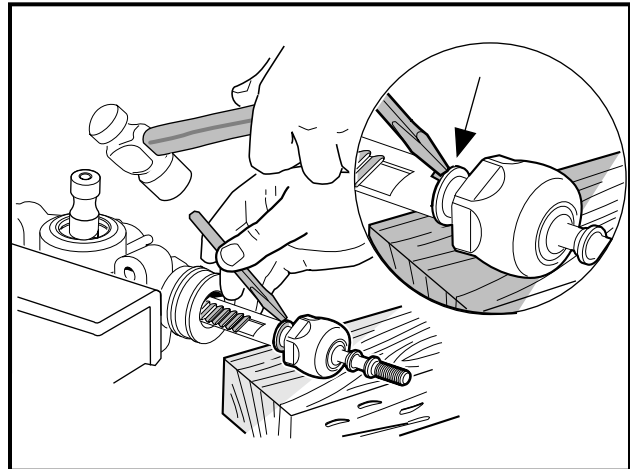

Figure 7-19 Remove Ball Joint
- 13.2. Tap the flange out of the notch in the rack (**Figure 7-19, Page 7-10**).